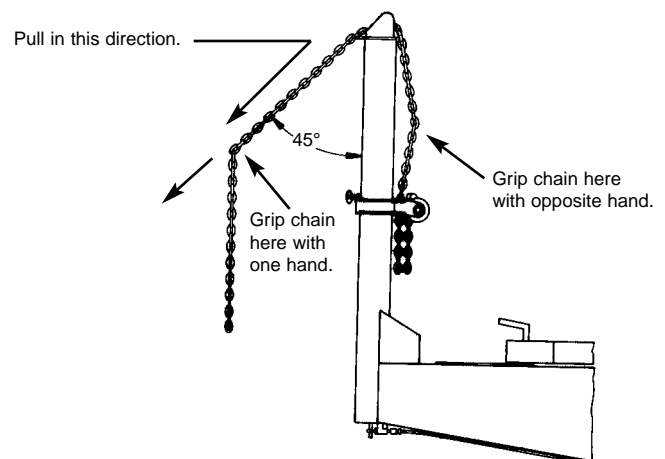

Figure 12
2. To adjust slack tower chain, grip chain on each side of tower. (See Figure 12.) Lift out on tail of chain until it is approximately 45 degrees from tower. Then disengage chain from tower head and pull chain to either increase or decrease amount of slack.